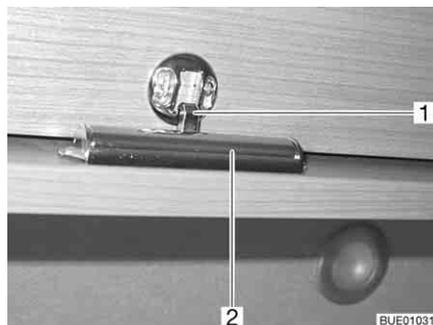

Fig. 69 Furniture flap with unlocking bar
- Press and hold the unlocking bar (Fig. 69,2) on the inside of the furniture flap.
- Press down furniture flap until the lock (Fig. 69,1) snaps into place with a click.